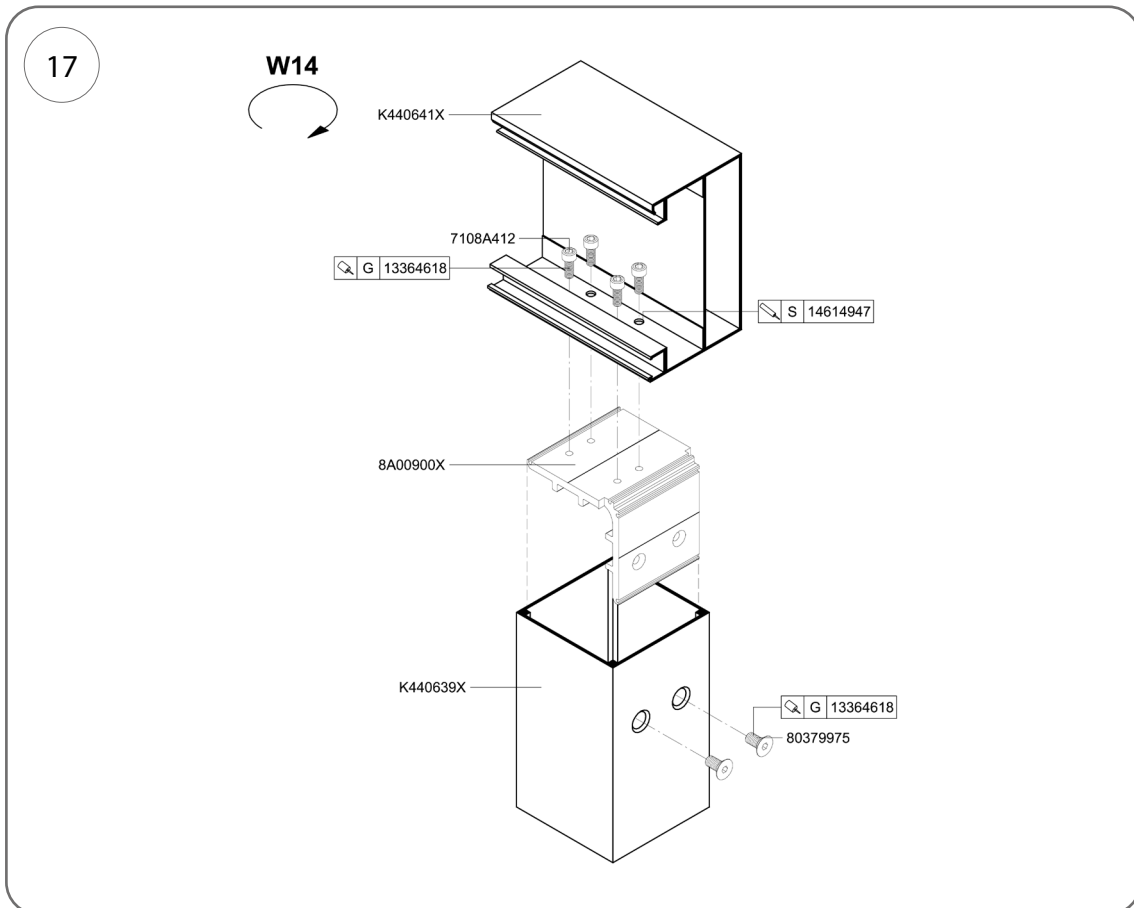
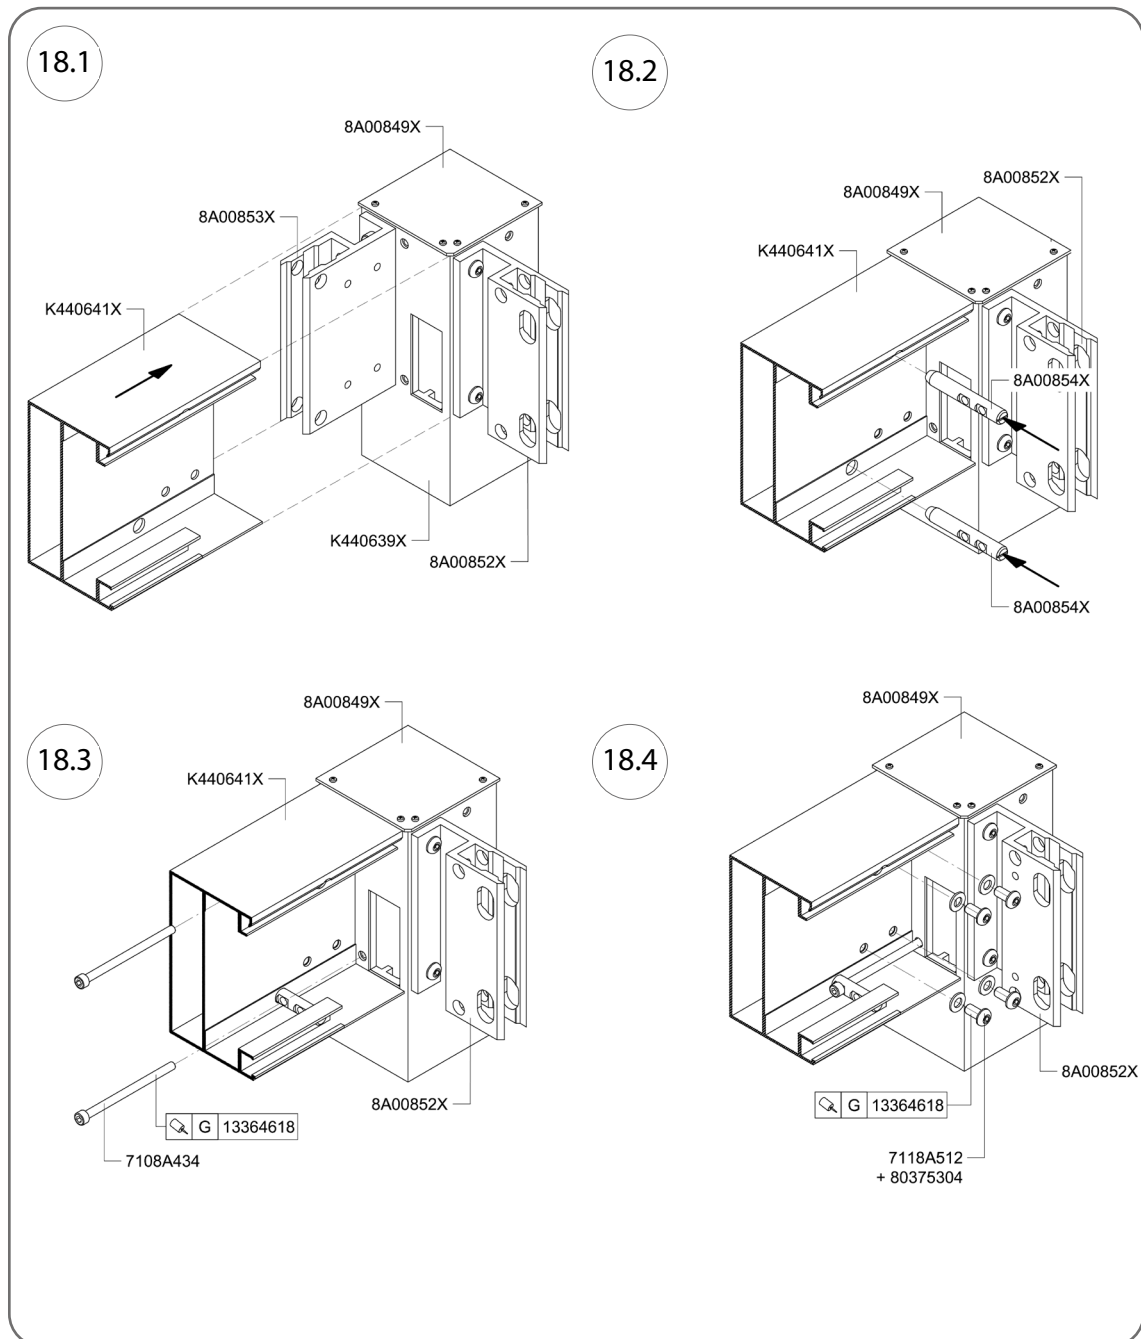

Fig. 17
Fig. 18
8. Using 4 M8 x 20 mm Allen screws, cat. no. 7108A412, screw the rafter or purlin profile to the connector, cat. no. 8A00900X, mounted in the post (Fig. 17 and Fig. 18). Coat the screws with thread sealant, cat. no. 13364618.